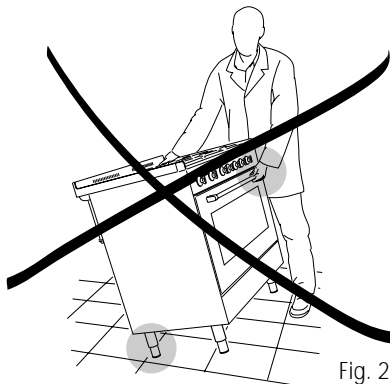

Fig. 22
**Be careful: do not lift the cooker by the door handle when raising to the upright position (fig. 22).**